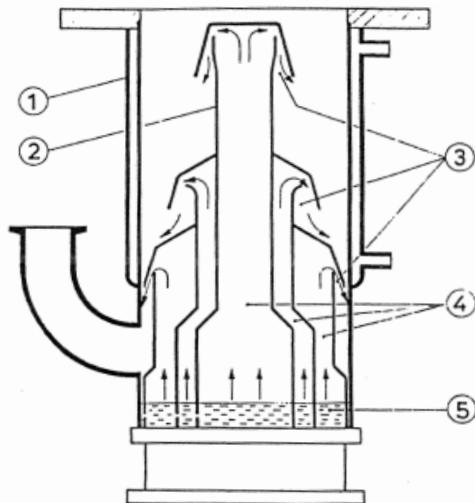

Figure 11: Diffusion pump diagram. (1) Pumping body, (2) Internal body, (3) Nozzles, (4) Steam rising tube, (5) Heating tank.
Diffusion pumps (fig. 11) are made of a pumping body (1), in which the bottom can be heated, and the sides cooled, and an internal body with several stories (generally three) (2). The motor fluid kept in the heating tank (5), is heated and vaporized electrically. The vapor rises in the column (4) and leaves through the nozzle (3) at a supersonic speed. The fluid then condenses on the water cooled walls, and drips back into the heating tank. The pumped gas is absorbed by the oil, and leaves through the exhaust tube.